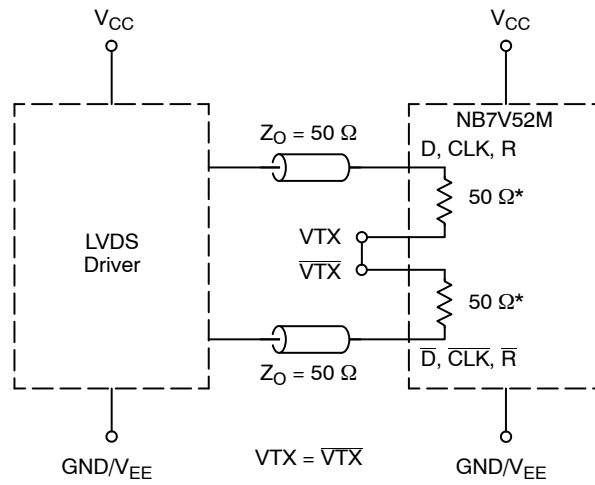

Figure 9. LVDS Interface
5. Connect internal 50-Ω pins VTCLK, \overline{VTCLK} , VTD, \overline{VTD} , VTR and \overline{VTR} to appropriate levels. See Figures 9–11 for appropriate Input level interface.